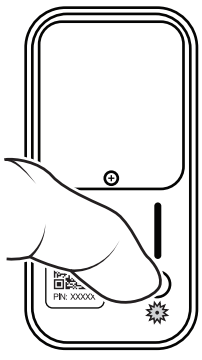

FIGURE 1
3. Press and release the programming button. This starts the manual add process. The LED flashes blue quickly as the add process begins (see Figure 1).